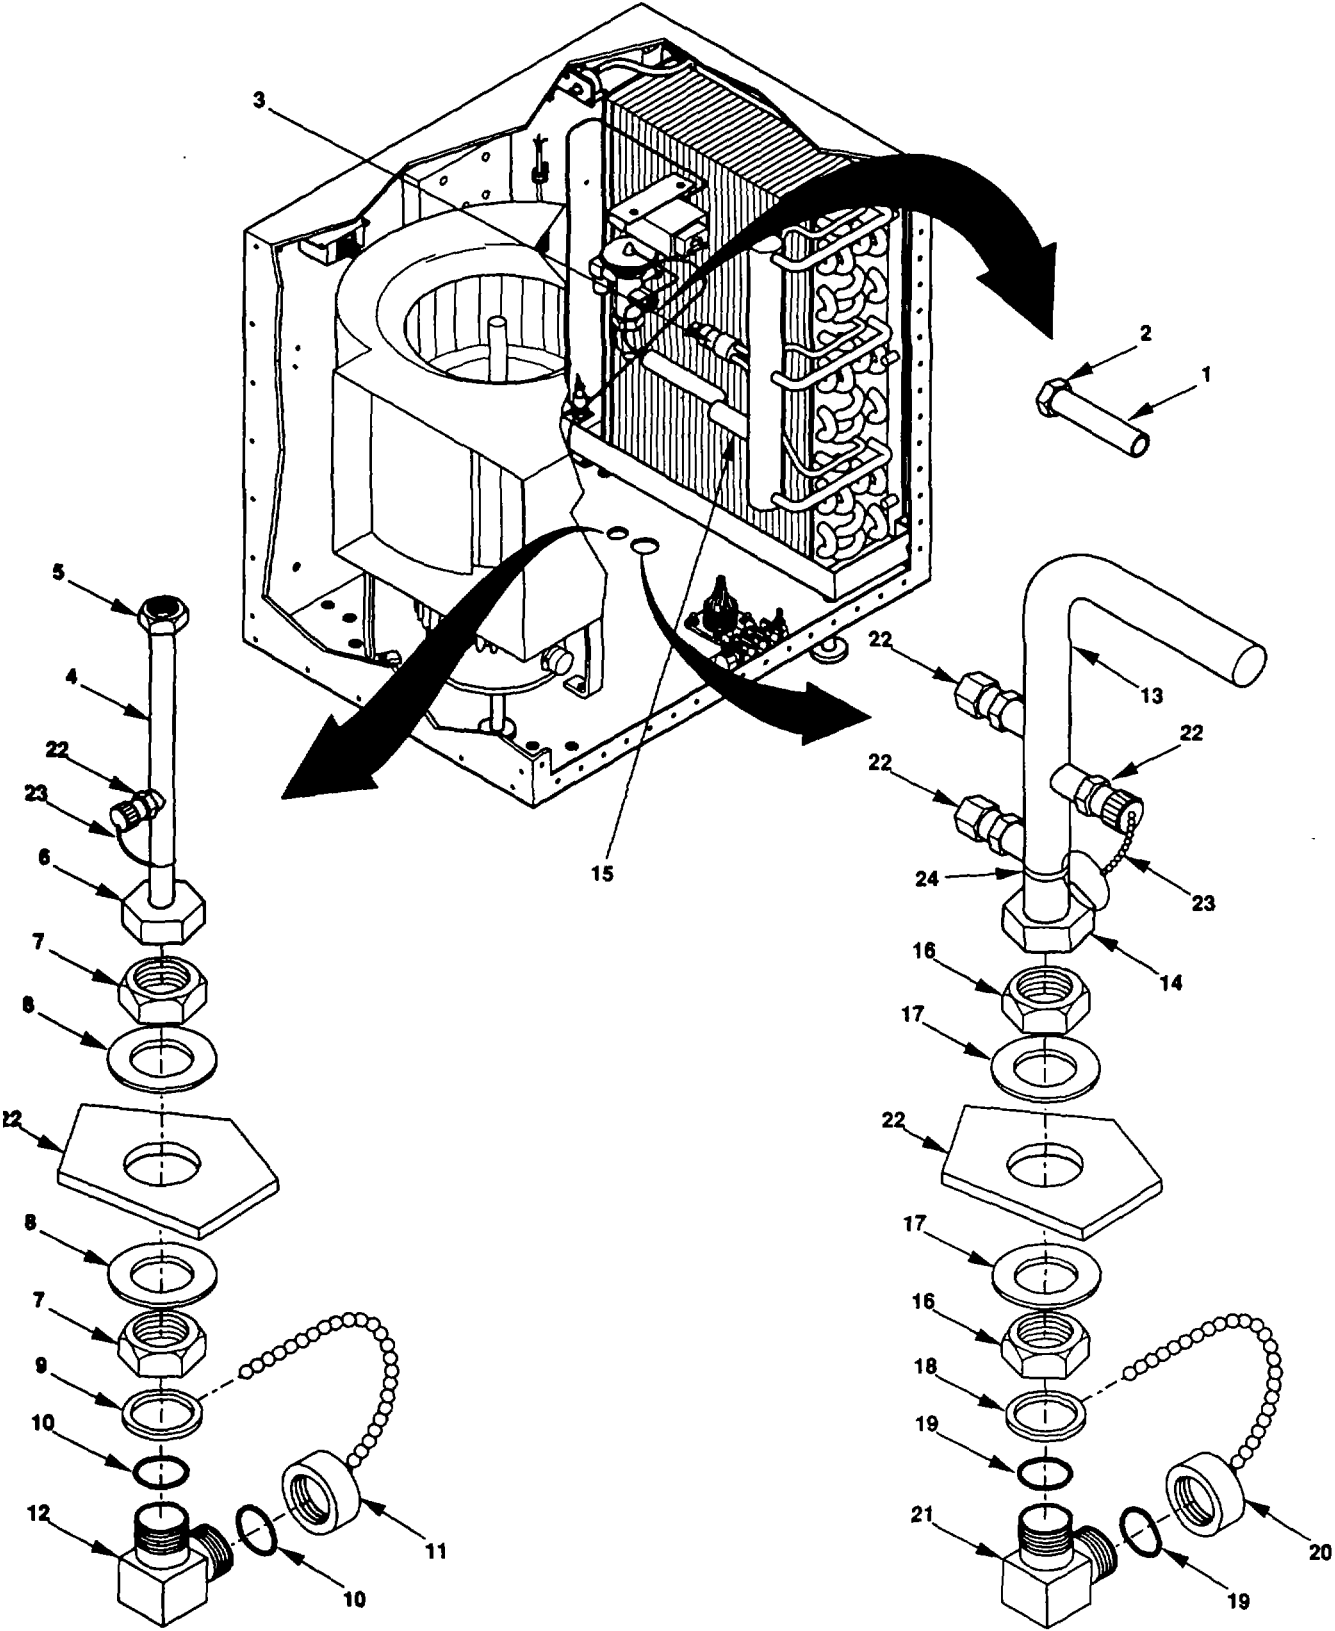

Figure 5-24. Evaporator Tubing and Fittings Maintenance.
(1) Remove TEV outlet tubing (Figure 5-24, 1) as follows:
- (a) Loosen flare nut (2).
- (b) Disconnect outlet tubing (1) from evaporator coil distributor (3).
(2) Remove liquid line tube assembly (4) as follows:
- (a) Loosen flare nut (5) and nut (6) and remove liquid line tube assembly (4).
- (b) Remove two lock nuts (7), flat washers (8), two preformed packings (9), split ring (10) and cap chain (11) from bulkhead elbow (12). Discard preformed packing (9).
(3) Remove suction line tube assembly (13) as follows:
- (a) Loosen nut (14), disconnect suction line tube assembly (13) from evaporator coil return (15), and remove suction line tube assembly (13).
- (b) Remove two lock nuts (16), flat washers (17), two preformed packings (18), split ring (19) and cap chain (20) from bulkhead elbow (21).